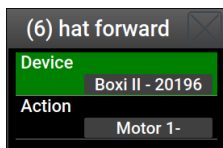

Figure 4.30: Joyu forward direction button (6) was assigned to Boxi II with serial number 20196. It will drive motor 1 in negative direction.
2. Assign a device from the list and its action to the button pressed in the previous step. Figure 4.30 shows an example for button 6 – hat forward.